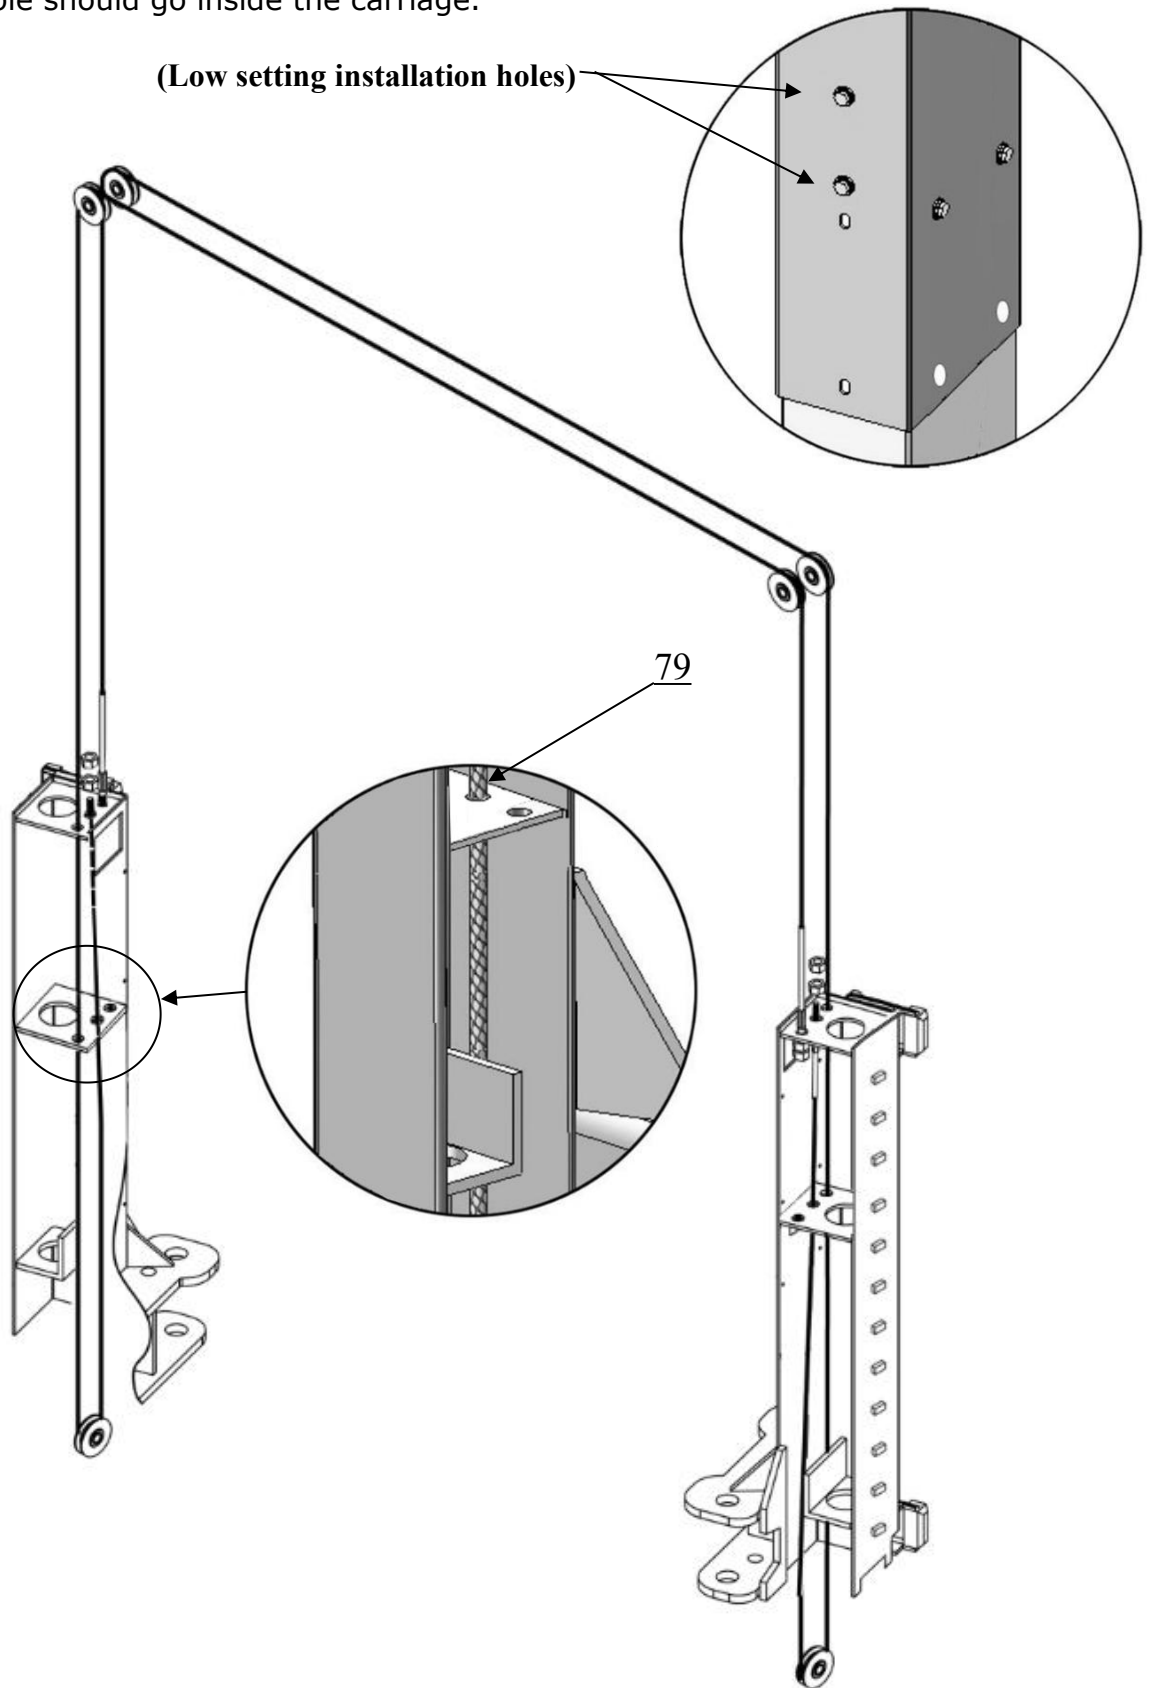

Fig.27
2. OHX-10H Low setting cable connection (See Fig. 27)